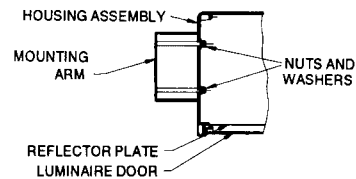

Figure 3
- Install the luminaire and secure with flat washers and locknuts provided (See Figure 3). Align the system as the nuts are tightened.